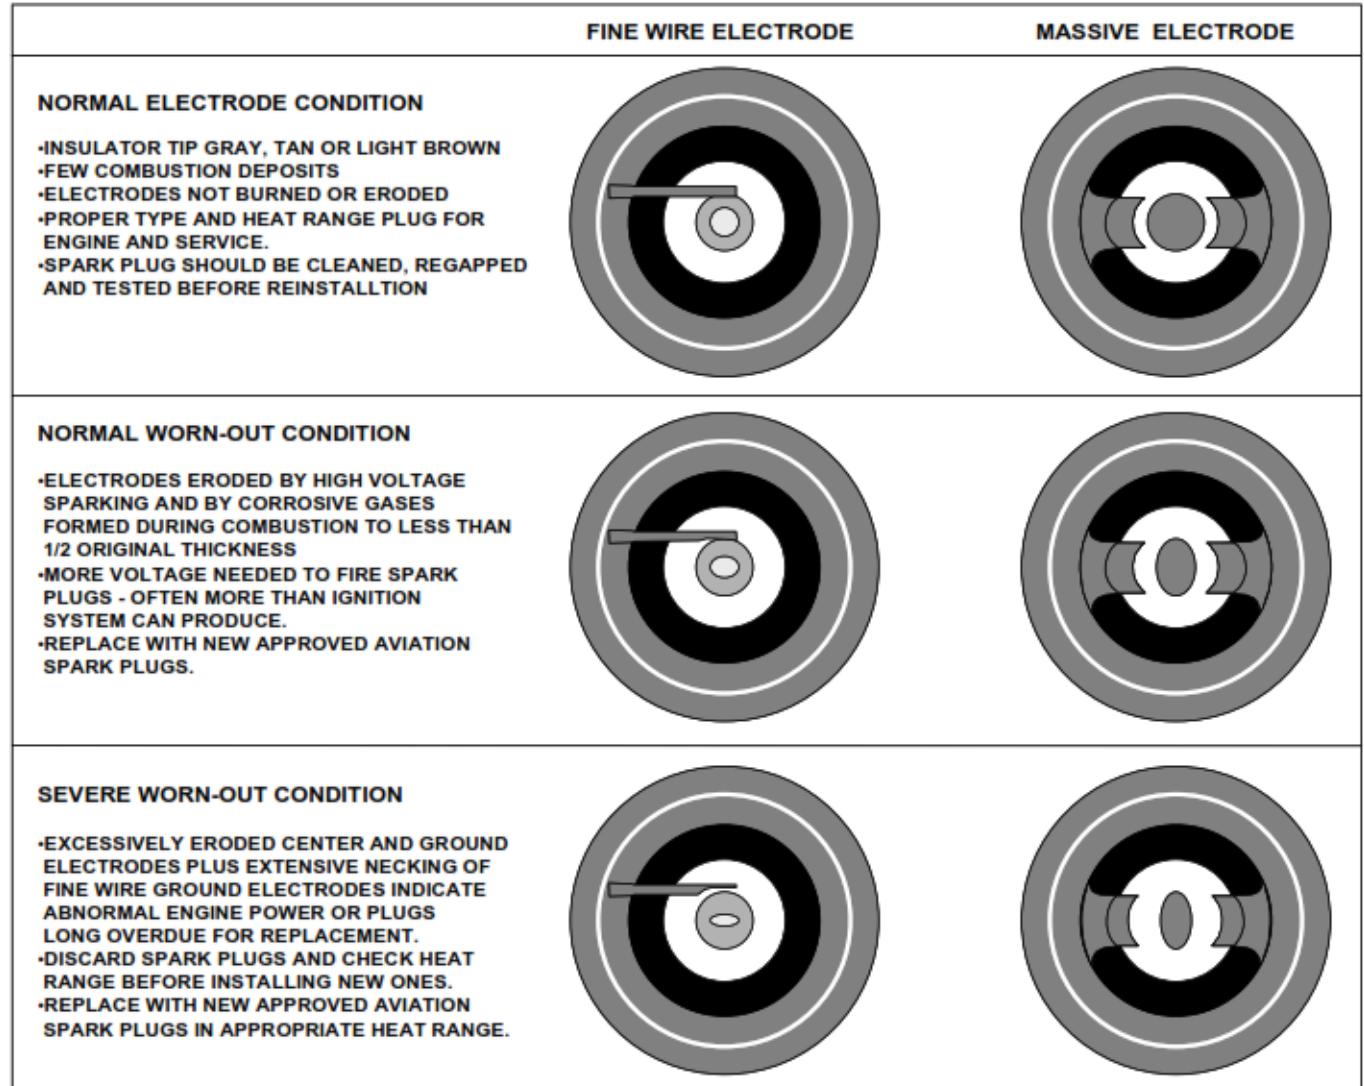

Figure 5.7.15.1 Spark plug inspection criteria.
(1) REMOVAL
(2) INSPECTION
- (b) Check the electrode gap and condition by comparing spark plug to Figure 5.7.15.1.
- (e) Replace sparkplugs with specified plugs from the table below. Figure 5.7.15.1 If spark plug does not need replacing, clean and gap as specified by the manufacturer.